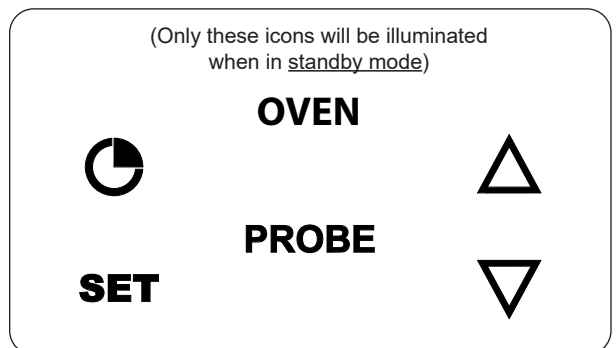

Fig. 32-3 Standby mode
**Standby Mode:** If the oven ambient temperature remains at 170°F or higher, the digital thermometer will continue operating. If the ambient temperature remains below 170°F, and there is no user input for a duration of 10 minutes, the digital thermometer will automatically transition into “Standby Mode”. See Fig. 32-3.